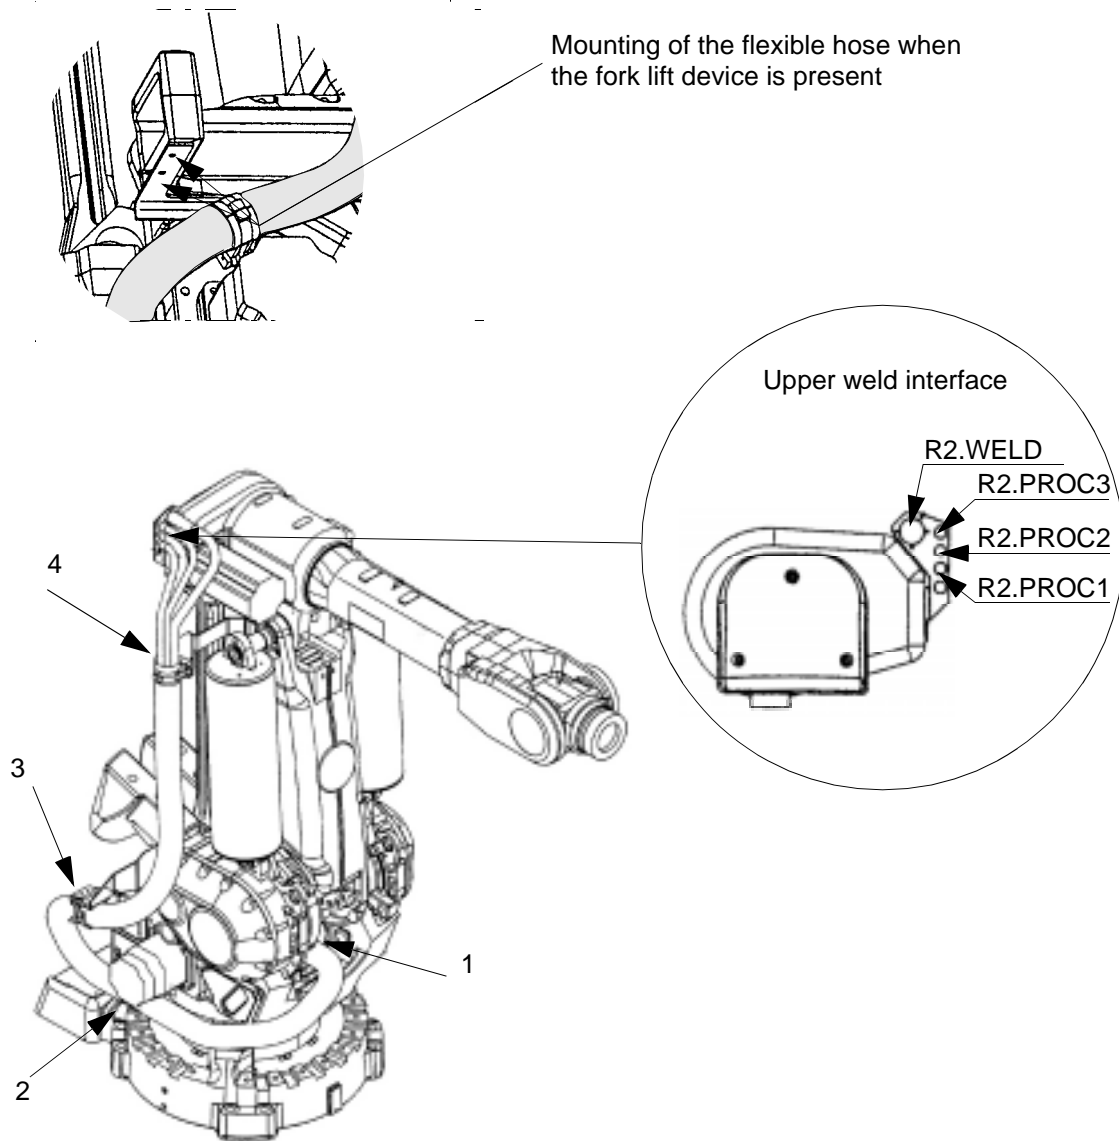

Figure 15 Attachment points for spotwelding harness
6. Unsnap the harness from the lower (2) and upper (3) fixtures on the gearbox axis 3 and from the fixture on the lower arm (4). On robots with truck lifts fitted, there is a hose clamp underneath the truck lift (see Figure 15).